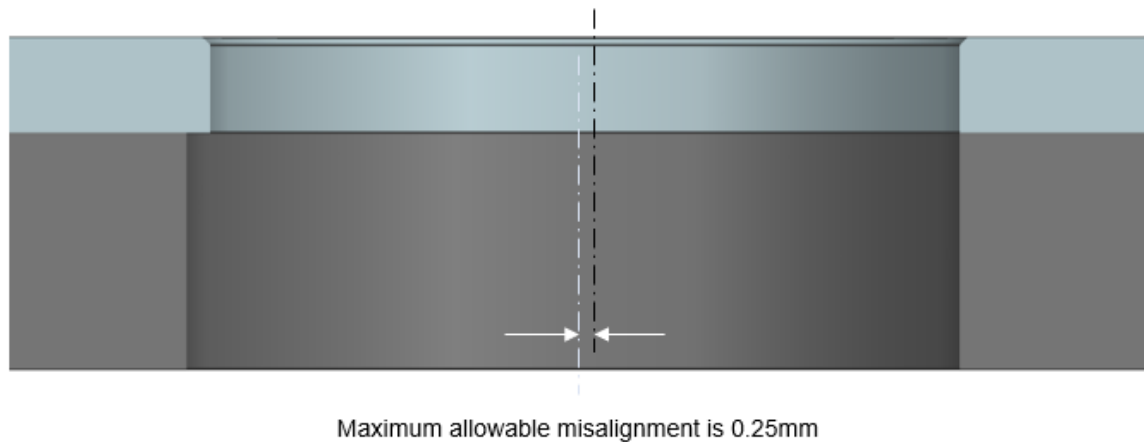

Figure 5.2.2
- b. Maximum misalignment of Busbar Hole and Fixture Hole should be no more than 0.25mm to avoid any stubbing during press. Refer to below figure 5.2.2.